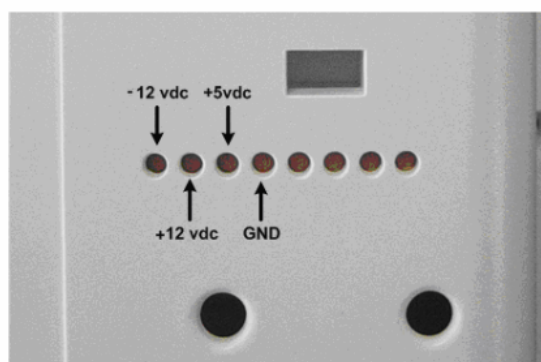

Figure 5-19 Voltage Test Points on Pod Interface Connector
- 2 If the Pod does not sign on, check that the +12vdc, -12vdc, and +5vdc voltages for the module and Pod are present. These voltages are accessible on the Pod connector pins. Refer to Figure 5-19 on page 5-25:
- 1 Check that the +12vdc and -12vdc voltages are present on the Pod Interface PCBA. Refer to Figure 5-19.